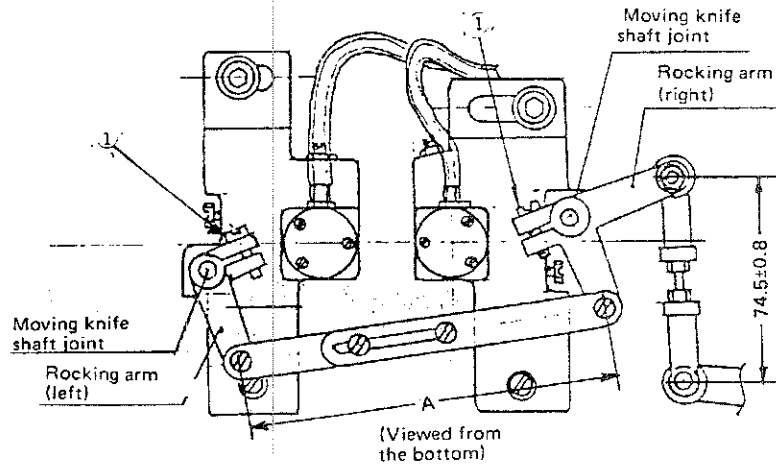
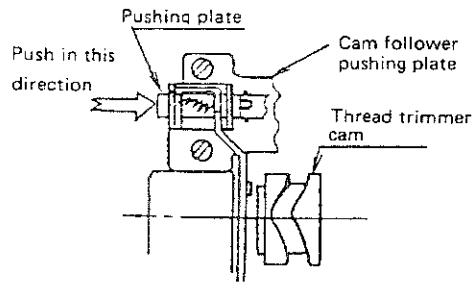

Fig. 29
Fig. 30
<ol style="list-style-type: none"> 1. Loosen screws to release rocking arm (Fig. 29). 2. Adjust the position of the moving knife to the moving knife rest. 3. After the adjustment, push the pushing plate in the direction of the arrow in Fig. 30 and turn the handwheel toward you to check that the requirements have been met. (Repeat this procedure several time to make sure). <p>(CAUTION) When tightening screw ① to fix the rocking arm, make sure that there is no clearance at the surface of the hook driving shaft saddle.</p>	<p>If the moving knife juts out too much from the fixed knife ;</p> <ul style="list-style-type: none"> ○ Thread trimming failure may occur. ○ The thread trimmer may fail to catch the thread. <p>If the moving knife juts out too little from the fixed knife ;</p> <ul style="list-style-type: none"> ○ The thread trimmer may fail to catch the thread. ○ The machine may fail in making some starting stitches as illustrated below; <div data-bbox="1015 1375 1315 1480" data-label="Diagram"> </div> <p>* Initial position of the moving knife by thread size</p> <div data-bbox="950 1564 1372 1701" data-label="Diagram"> </div>